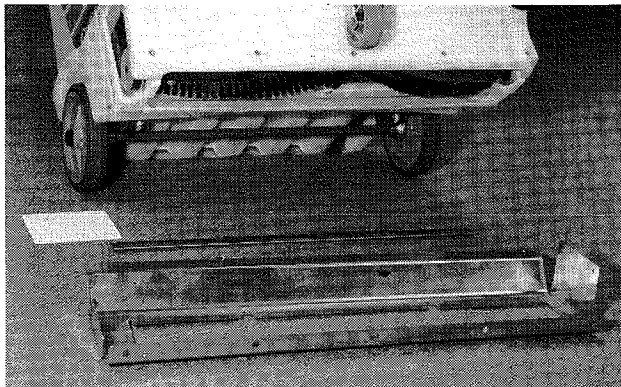

Figure 8
1. Remove the belt cover, #64 and the carpet shoe, #66 as shown in Figure 8.